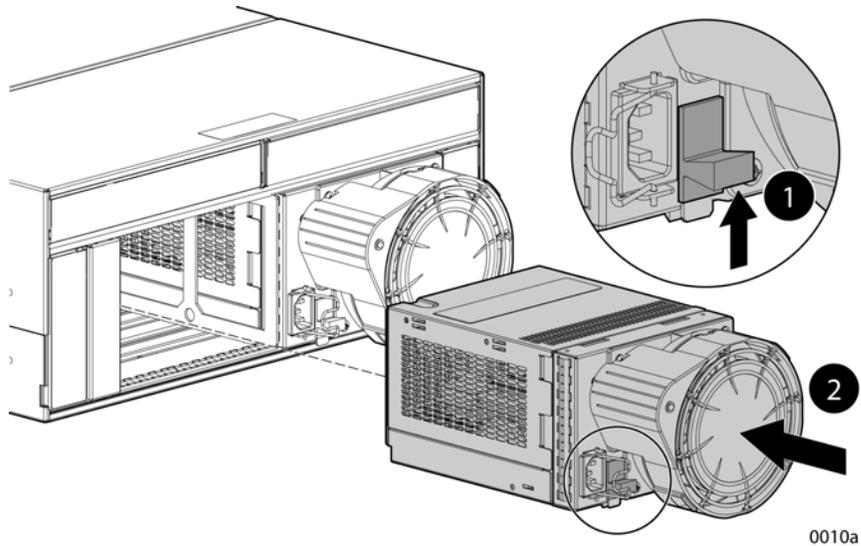

Figure 45 Installing a power supply
1. Lift up on the module latch (1, Figure 45) and slide the power supply into the enclosure until it is fully seated.